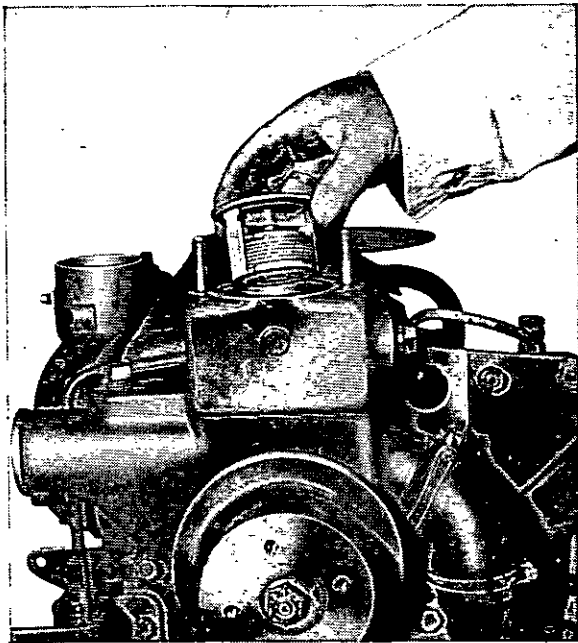

Fig. L.8.
With the high position pump, the thermostat is fitted in the top of the pump (Fig. L.8).
3. In the case of the high position pump, remove water outlet connection adaptor; lift out thermostat (Fig. L.8).